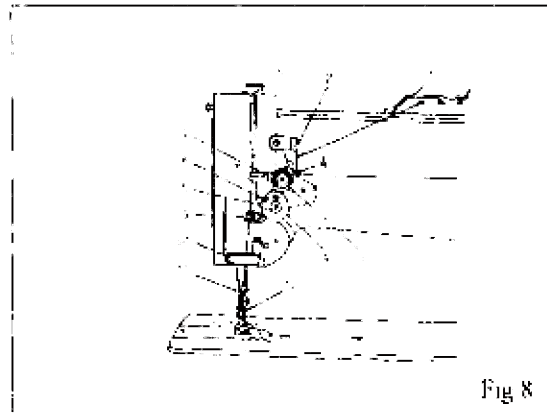

Fig 8
8. THREADING (Fig.8)
Before adjusting the tension of the upper (needle) thread, be certain that the presser foot is let down but not in lifted position. To adjust tension, turn serrated nut (A Fig.8) on tension device to clockwise to increase tension, while turning it to counter-clockwise to decrease it.